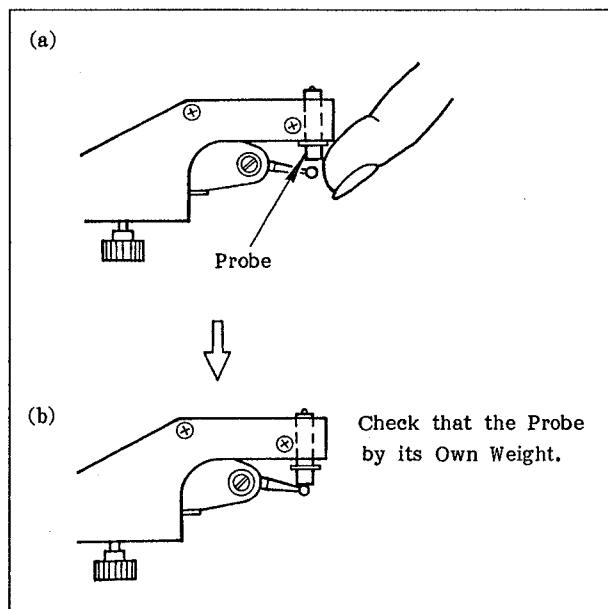

Fig. 5-19 Checking the Probe
- 1. Hold the probe of the head projection measurement gauge with your finger, as shown in Fig. 5-19 (a), and check that it drops by its own weight when you remove your finger, as shown in Fig. 5-19 (b).